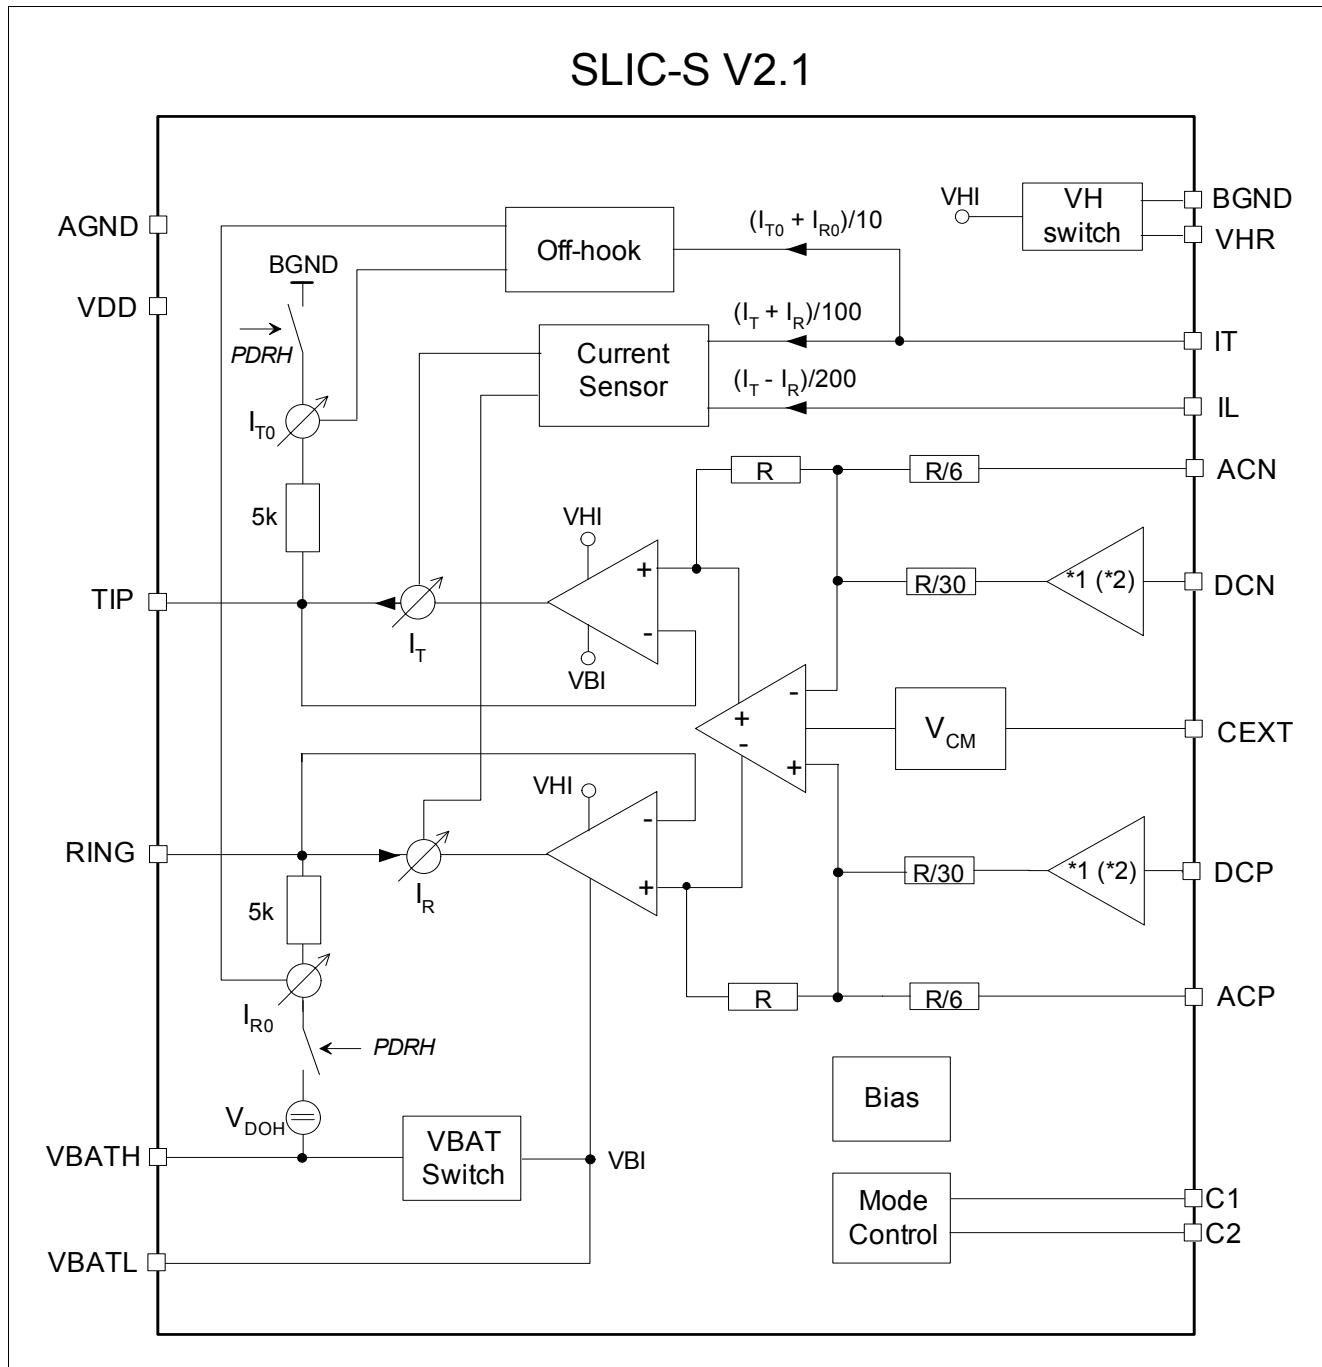

Figure 6 Block Diagram
A functional block diagram is shown in Figure 6.
Power consumption is reduced to a minimum by switching completely off all voice transmission functions. To allow off-hook detection, PDRH provides a connection of $5\text{ k}\Omega$ each from TIP to BGND and RING to VBATH, respectively, while the output buffers show high impedance (see Figure 6). The current through these resistors is sensed, scaled by 1/5 and transferred to the IT pin for off-hook supervision.
3) Due to the changed battery switch concept (see **Figure 6**), the VBATL series diode must not be shared between different channels; one diode per channel is mandatory (also for applications with TSLIC-S).